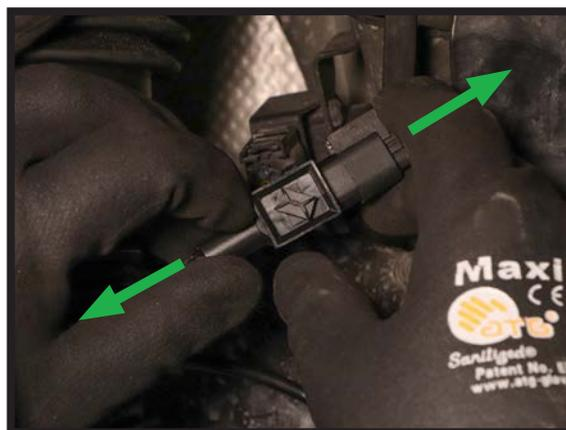

FIGURE 7
9. DISCONNECT AIR STRUT SOLENOID WIRE. (FIGURE 7)